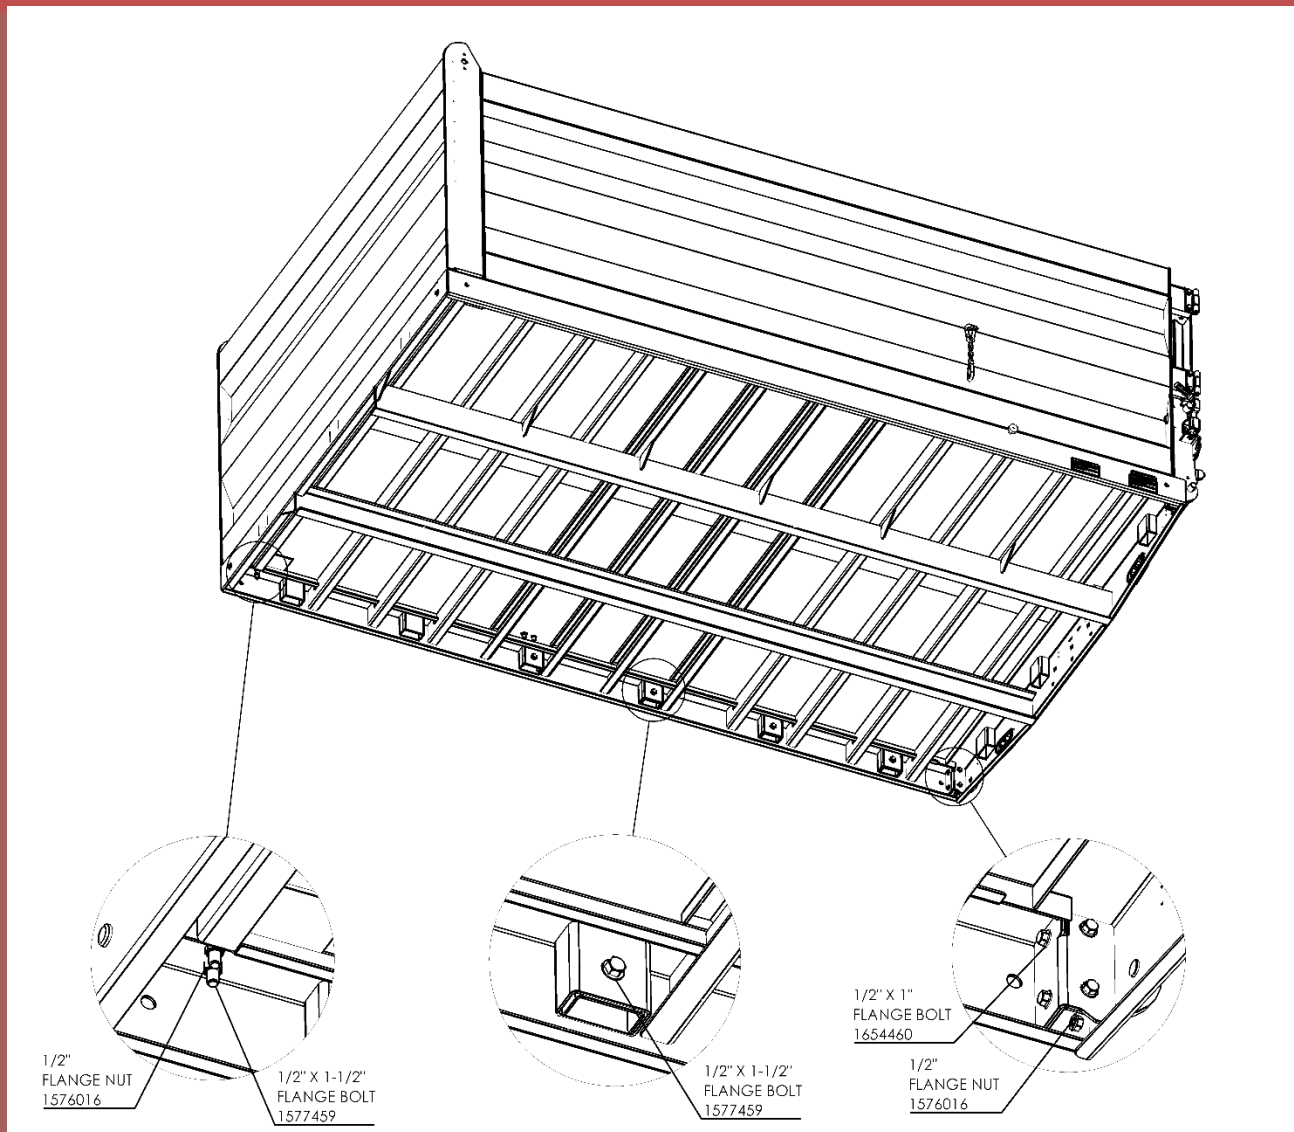

Figure 6: Bolting under the Platform on the Right Side
2. Bolt the Front right corner of the bulkhead down using 1/2" X 1-1/2" Flange Bolts (1577459) and 1/2" Flange Nuts (1576016). This step will require 1 person inside the body to insert the bolt, and 1 person under the body to thread the nut. The person on the underside of the body will continue to bolt in the side stakes. The two (2x) 1/2" X 1- 1/2" bolts may need to have a 9/16" hole drilled through the floor for installation, depending on the model of platform. Hand-tighten the nuts, do not tighten with a wrench. The bolts must be loose to allow for squaring the sides later. Refer to **Figure 4** and **Figure 6** for 1/2" X 1-1/2" flange bolt locations for the front right corner.
4. Bolt the rear corners of the Sides to the Platform using 1/2" X 1" Flange Bolts (1654460) and 1/2" Flange Nuts (1576016). The 1/2" X 1- 1/2" Flange Bolts may need to have a 9/16" hole drilled through the stake pockets for installation, depending on the model of platform. Bolt the side stakes to the stake pockets using 1/2" X 1-1/2" Flange Bolts (1577459) and 1/2" Flange Nuts (1576016). Refer to **Figure 6**.
5. Tighten bolts on the right side shown in **Figure 6** to spec. Refer to **Figure 2**.